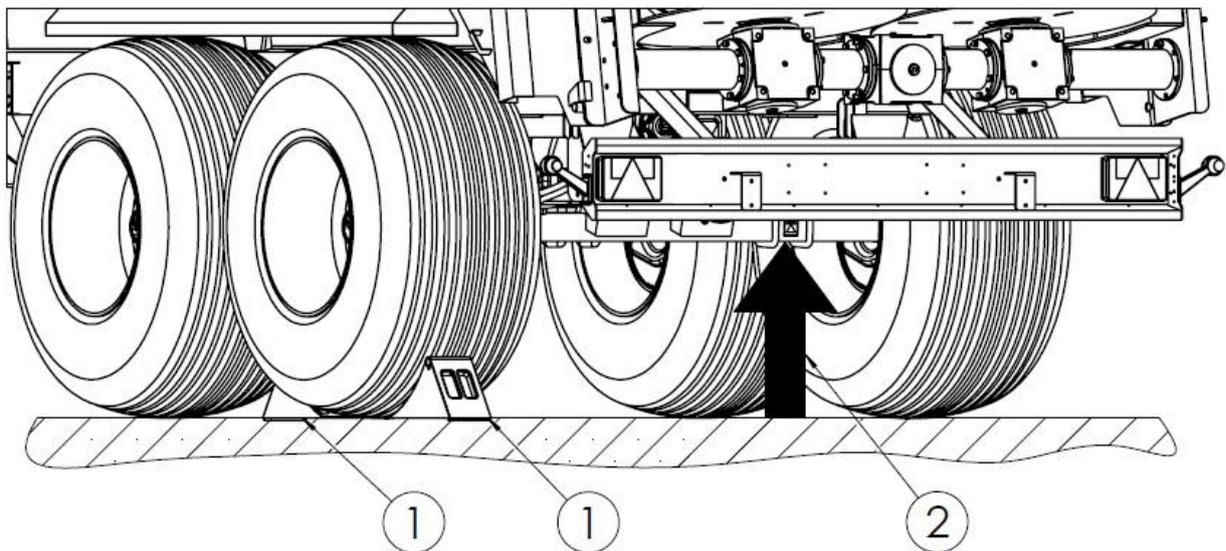

Figure 44. Jacking points
If it is necessary to disassemble the wheel, observe the jacking points (2) under the axle. See Figure 44 for the jacking points. Place the safety chocks (1) under one wheel only.